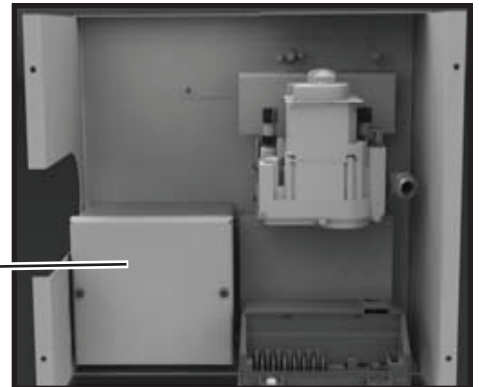

Figure 25: Electrical box cover.
4. Remove the cover from the electrical box (Figure 25).